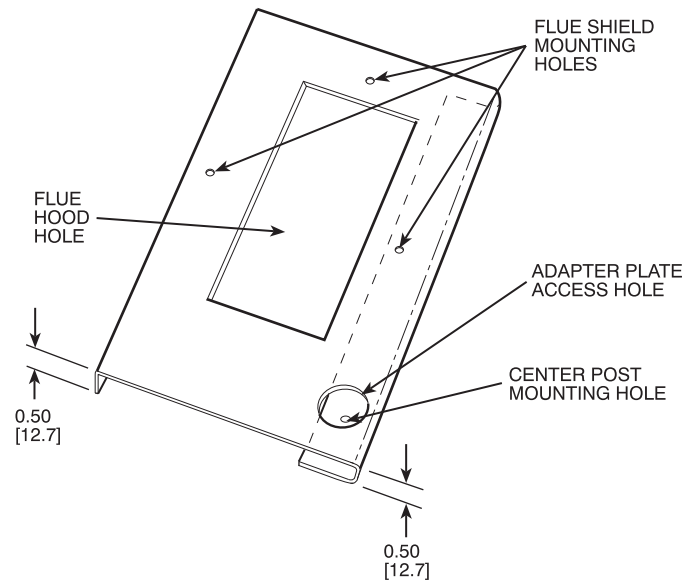

Fig. 3 - Adapter Plate
2. Fasten the flue shield to the adapter plate. (See Fig. 3.) Flue shield should be installed on flat side of adapter plate with large hole in bottom right corner.